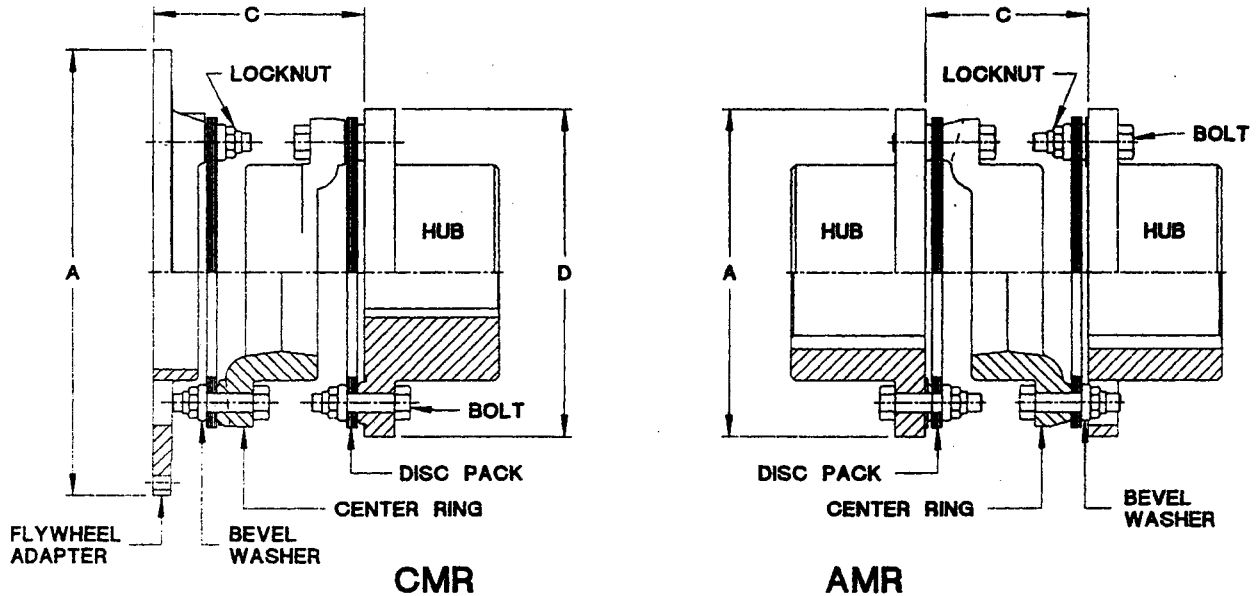

Figure 1
**B. Axial Spacing.** The axial spacing of the shafts should be positioned so that the disc packs (flexing elements) are flat when the equipment is running under normal operating conditions. This means there is a minimal amount of waviness in the disc pack when viewed from the side. This will result in a flexing element that is centered and parallel to its mating flange faces. Move the connected equipment or hubs on their respective shafts to accomplish the above. As a guide, maximum and minimum values for dimension "E" are given. See Table 1 and Figure 1.
C. Position one set of short bolts in each hub on top. Now slide the center ring down into place straddling the short bolts with the center ring bushings. If coupling is dynamically balanced, the center ring match marks must line up with both hub match marks. When one bushing is in line with the hole in the disc pack, slide one long bolt through washer or link, disc pack, center ring, disc pack, washer or link, and then secure with a locknut. The long bolt requires a minimum clearance "R" for installation between back side of coupling flange and stationary equipment. See Figure 1 and Table 1 for value of "R". On size 226 and larger a link must be put on the bolt first. Now install the rest of the long bolts in the same manner.
- B. Axial Spacing.** The axial spacing of the shaft should be positioned so that the disc packs (flexing elements) are flat when the equipment is running under normal operating conditions. This means there is a minimal amount of waviness in the disc pack when viewed from the side. This will result in a flexing element that is centered and parallel. Move the connected equipment or hub(s) on their respective shaft(s) to accomplish the above. As a guide, maximum and minimum values for dimension "C" are given. These dimensions are suggested for initial installation. Additional capacity is available to compensate for thermal and structural movement. Maximum axial capacity values for these couplings are also given. See Table 1 and Figure 1.
**VI. FINAL ASSEMBLY.** With the coupling in good alignment, the bolts will fit through the holes in the flanges and the disc packs more easily. See Figure 1.